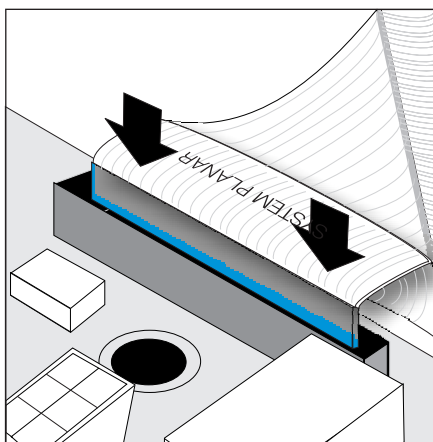

Figure 142. Install the service controller card cable into the system board of the SAN Volume Controller 2145-4F2
11. To reinstall the cables, *carefully* install the one end of the ribbon cable (marked System Planar) to the system board being sure to install the cable straight in. See Figure 142 on page 472.